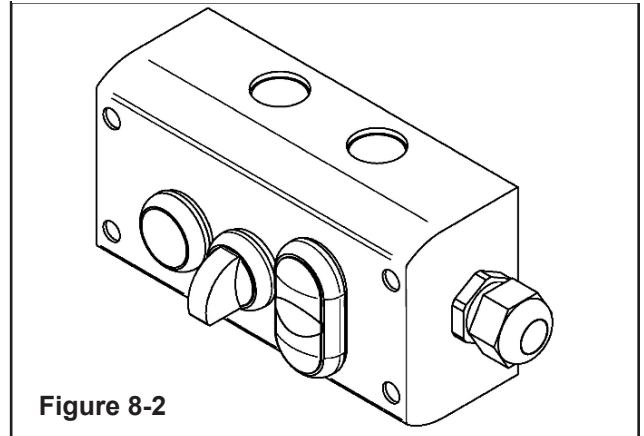

Figure 8-2
- The main On/Off switch "ON" (I) (**Figure 8-2**)